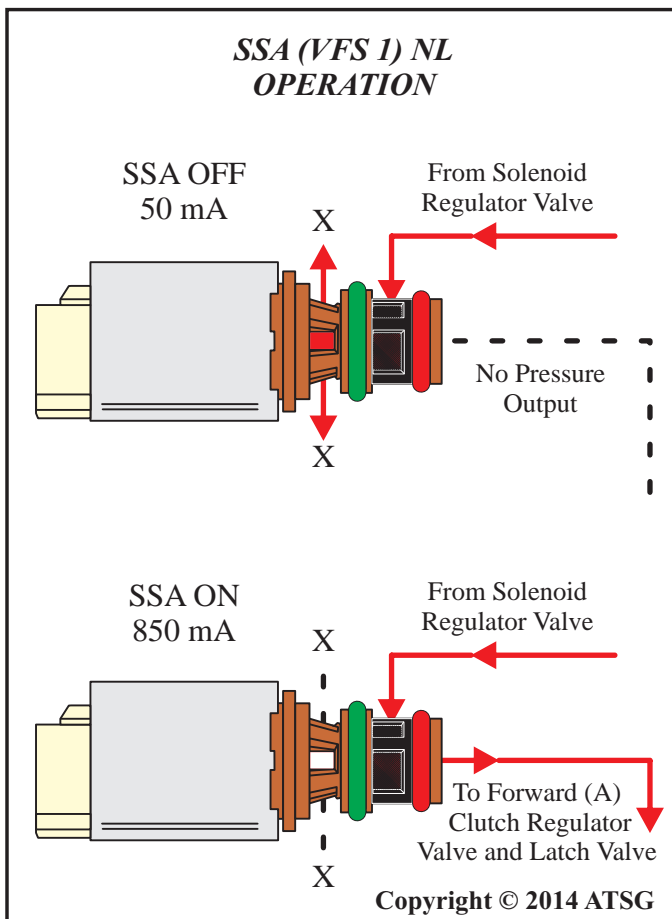

Figure 13
The 6R60/75/80 transmission uses a total of seven solenoids to control all the shifting functions. There are six Variable Force Solenoids; SSA (VFS 1), SSB (VFS 2), SSC (VFS 3), SSD (VFS 4), PC A (VFS 5) and TCC (VFS 6) and one On/Off solenoid SSE (SS 1). SSA, SSC, and TCC, are all Normally Low or Proportional Control solenoids. This means with low current to the solenoid, output pressure will be low. Solenoids SSB, SSD and PC A are Inversely Proportional Control solenoids, therefore, with low current to the solenoid, output pressure will be high. SSE is the lone On/Off controlled solenoid. Refer to Figure 12 for solenoid on/off apply chart. If you reference Figures 13 - 18, you will notice that the plastic bodies of the solenoids vary in color between Brown (NL) solenoid and Black (NH) solenoid, the o-ring colors are different also, and also the plastic bodies are different diameters to help avoid installing wrong solenoid type NL/NH into wrong solenoid bore.
Shift Solenoid A, or Variable Force Solenoid 1 is a Normally Low (NL) or normally vented solenoid and uses proportional control. The Mechatronic Control Unit, or PCM will vary the control amperage through the solenoid circuit in order to control the output pressure through the solenoid. Refer to the solenoid apply chart in Figure 12. The chart shows SSA applied amperage of 50 mA when the solenoid is OFF and applied amperage of 850 mA when the solenoid is ON. Refer to the diagram in Figure 13. Hydraulic solenoid control pressure is supplied by the solenoid regulator valve in the main control assembly and is directed to the solenoid in the passage between the two o-rings. With control amperage of 50 mA, the control valve in the solenoid is open and pressure is exhausted through the back of the solenoid. With control amperage of 850 mA, the control valve in the solenoid is closed and pressure is not exhausted, instead control pressure is directed through the front of the solenoid and is used to control the apply and release of the forward (A) clutch through the forward (A) clutch regulator valve and forward (A) clutch latch valve.